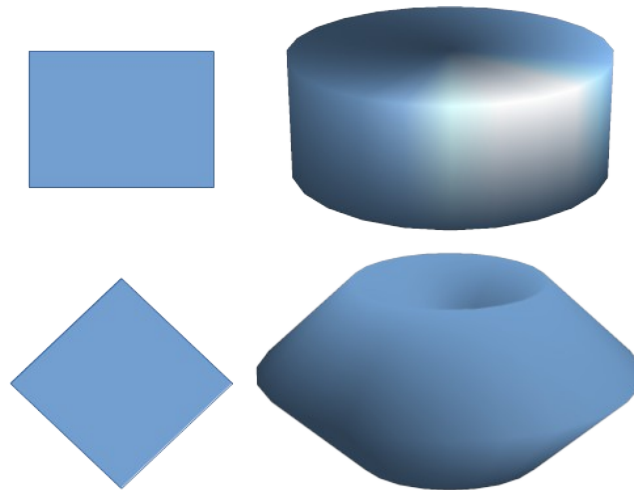

Figure 6: Examples of using rotation for 3D conversion
**To 3D Rotation Object** or **Convert to Rotation Object** converts a 2D object into a 3D scene by rotating the object using the left edge of the bounding box around the object as the axis of rotation. Examples of 3D conversion using either of these rotation tools are shown in Figure 6. The actual 3D scene created depends on the angle and shape of the object being rotated.